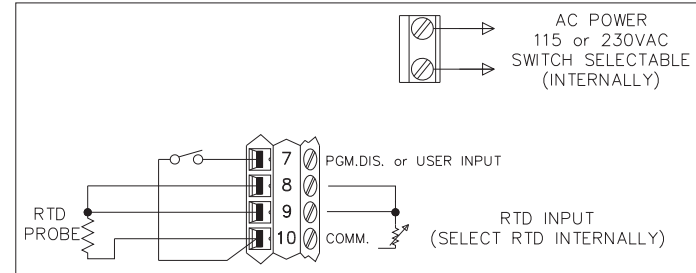

Figure 8, RTD Connection
- B) Connect a shorting wire directly from terminal #9 to terminal #8, as shown in Figure 8, RTD Connection. A temperature offset error of 2.5°C/ohm of lead resistance exists. The error may be compensated for by programming a temperature offset.